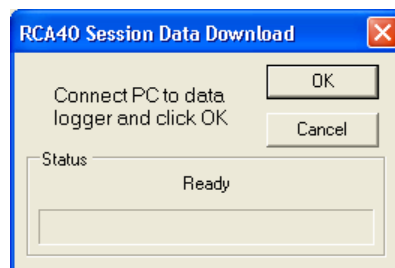

Figure 16 - Session Data Download Dialog (Idle)
1. Click the Download button  on either the main toolbar or the Lap Explorer toolbar, or select **File** ➔ **Download** from the main menu, or select the **Download** option from the context menu attached to the root or circuit node. The Session Data Download dialog (Figure 16) appears.